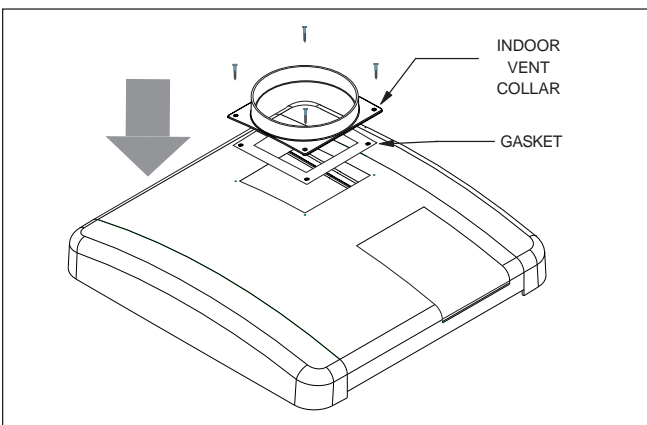

Figure 6. Vent Collar Assembly for Indoor and Outdoor Shelter Installation
2. Replace the grill with the vent collar. Place the vent collar and gasket over the hole and fasten it in place with the 4 screws provided. Be sure that all components are properly aligned (See Figure 6).